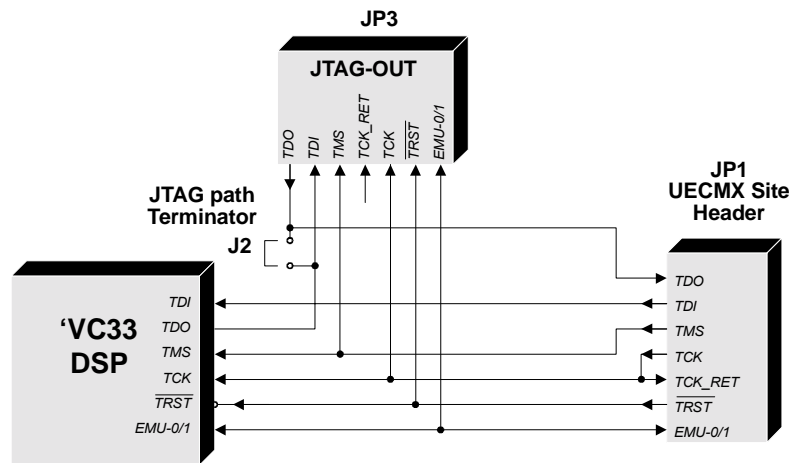

Fig. 2-24. On-board JTAG path for connection *UECMX* to *TORNADO-33*.
*TORNADO-33* on-board JTAG path for connection to MicroLAB' *UECMX* universal JTAG emulator daughter-card module for *TORNADO* DSP systems is presented at figure 2-24 (see also fig. 2-1 and fig. A-1) and comprises of *UECMX* DCM site (JP1) , TMS320VC33 JTAG port, JTAG-OUT connector and JTAG path terminating jumper.